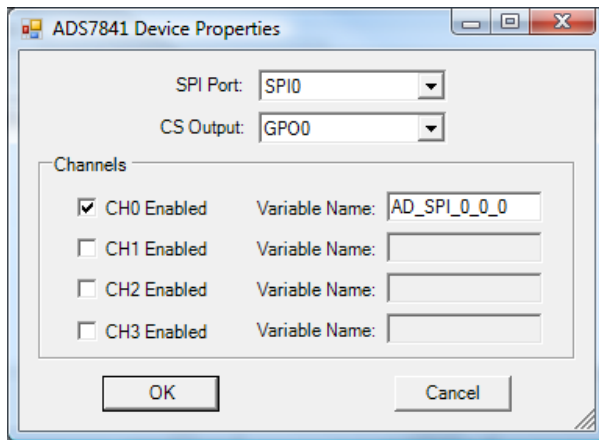

Figure 15-8
Select the SPI port from the drop down menu and select the general purpose output pin (GPO) that will serve as this device's chip select (CS). With these two devices selected, additional channel information will be available to configure. See Figure 15-8.
The ADS7841 supports up to 4 A/D channels. Using the provided check box, select the actual channels that will be used in the ladder diagram project. For each enabled channel, a default Variable Name is automatically created. This name may be changed in the variable name box at this time. See Figure 15-8.